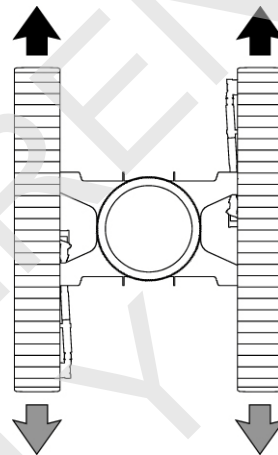

Figure 3-27. Travel Straight
- To TRAVEL STRAIGHT (Figure 3-27), move both of the crawler handles the same amount in the desired direction from the neutral position.